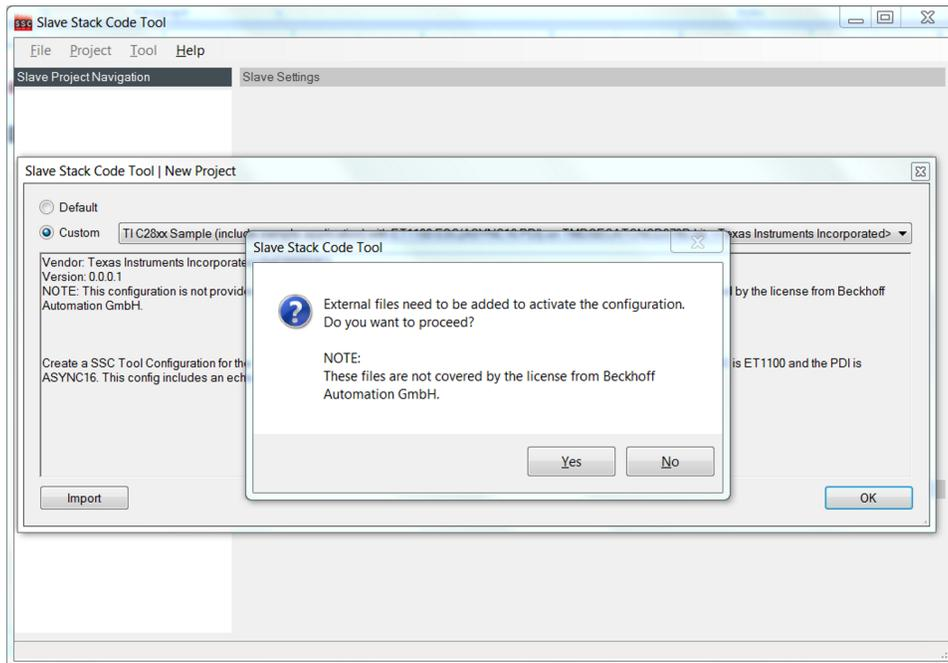

Figure 12. Project Selection
4. Choose an option (preferably one with a sample application), then click OK and click Yes, as shown in Figure 12.